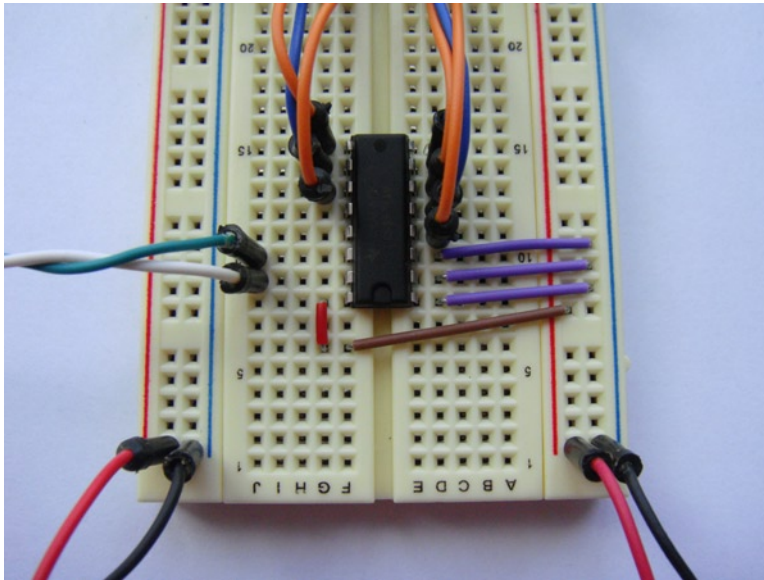

Figure 4-15. Finished breadboard
4. Lastly, in Figure 4-15 I add in the hook-up wire for the I2C lines and the lines for the LCD.